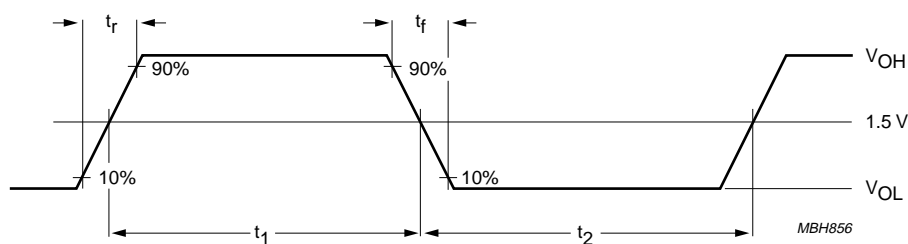

Fig.12 Definition of transition times.
2. The transition time and duty cycle definitions are shown in Fig.12; $\delta = \frac{t_1}{t_1 + t_2}$.